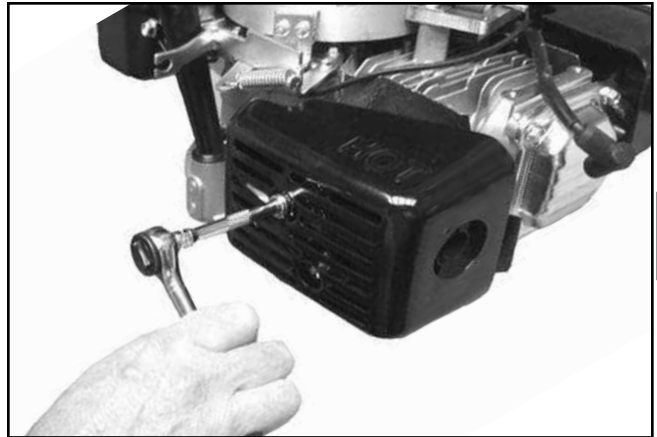

Figure 8-7. Removing Muffler Heat Guard.
1. Remove two hex flange nuts securing the heat guard to the cylinder head. See Figure 8-7.